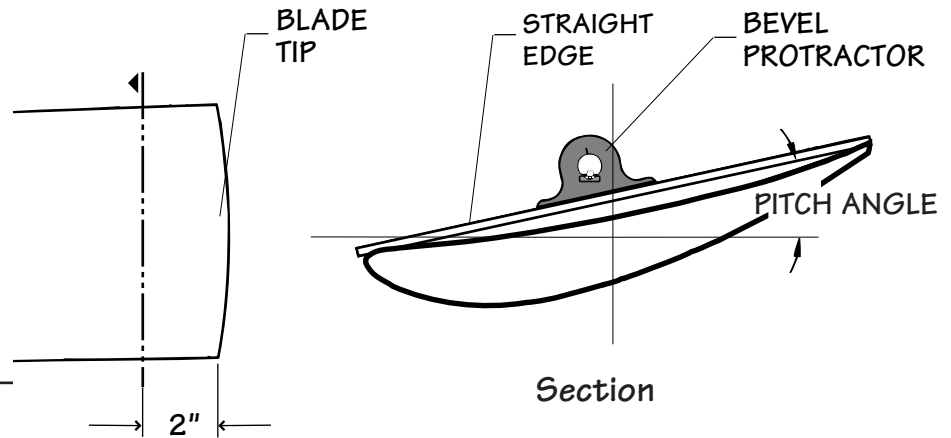

Figure 6
- 1 Select a position on the fan circumference and rotate each blade to this common location when setting or checking blade pitch. Support the blade tip to maintain a common rotation plane while setting the fan pitch. The pitch is set within 2" (51 mm) of the blade tip by placing a bevel protractor on top of a parallel sided straight edge that extends across blade width as shown in **Figure 6**.